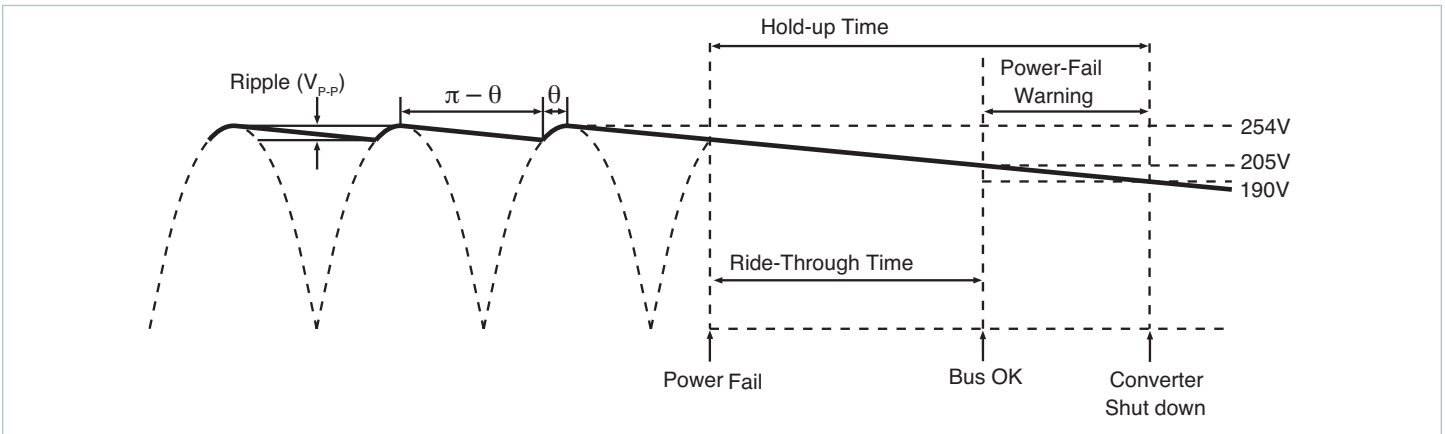
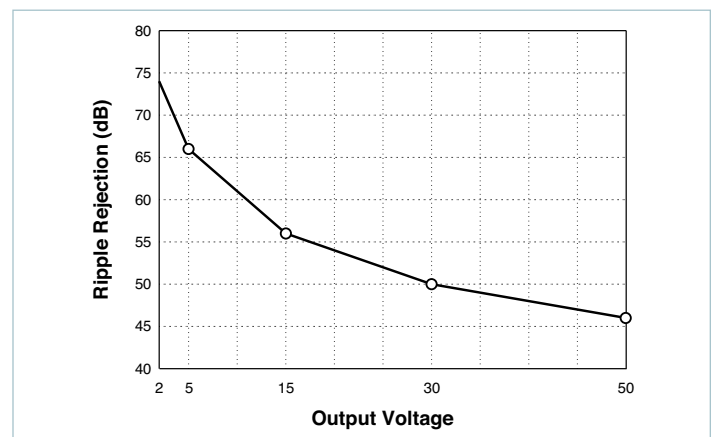

Figure 7.7 — General timing diagram of bus voltage following interruption of the AC mains
Figure 7.11 — Converter ripple rejection vs. output voltage (typical)
**Hold-up Capacitors:** Hold-up capacitor values should be determined according to output bus voltage ripple, power-fail hold-up time, and ride-through time. (Figure 7.7) Many applications require the power supply to maintain output regulation during a momentary power failure of specified duration, i.e., the converters must hold up or ride through such an event while maintaining undisturbed output voltage regulation. Similarly, many of these same systems require notification of an impending power failure to allow time to perform an orderly shutdown.
The power-fail warning time ( $\Delta t$ ) is defined as the interval between (BOK) and converter shutdown (EN) as illustrated in Figure 7.7. The Bus OK and Enable thresholds are 205V and 190V, respectively. A simplified relationship between power fail warning time, operating power, and bus capacitance is obtained by inserting these constants:
For example, a converter whose output is 15V and nominal input is 300V will provide typically 56dB ripple rejection, i.e., 10Vp-p of input ripple will produce 15mVp-p of output ripple. (Figure 7.11) Equation 3 is again used to determine the required capacitance. In this case,  $V_1$  and  $V_2$  are the instantaneous values of bus voltage at the peaks and valleys (Figure 7.7) of the ripple, respectively. The capacitors must hold up the bus voltage for the time interval ( $\Delta t$ ) between peaks of the rectified line as given by:
(Figure 7.7)
Figure 7.11 is used to determine the ripple rejection of the DC-DC converter and indicates a ripple rejection of approximately 60dB for a 12V output. If the ripple on the bus voltage is 12VAC and the ripple rejection of the converter is 60dB, the output ripple of the converter due to ripple on its input (primarily 120Hz) will be 12mVp-p.